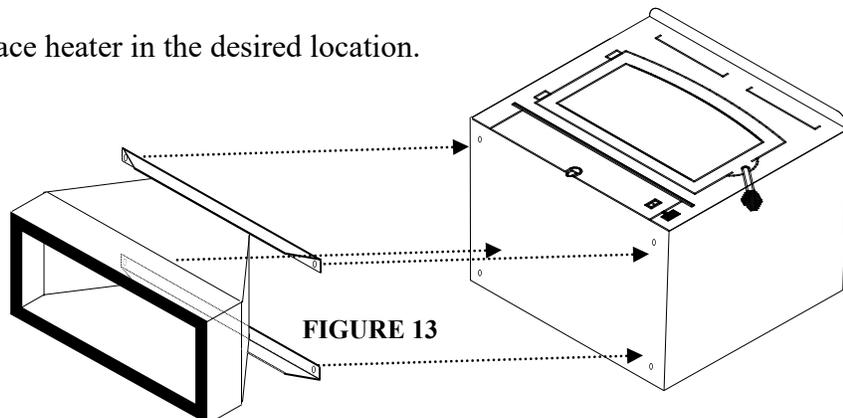

FIGURE 13
2. Obtain Pedestal and place pedestal against bottom of heater. Center pedestal from left to right and from front to rear. Mark holes thru pedestal brackets onto bottom of unit. Lay the pedestal aside. Drill four 1/8" holes through marks. Replace pedestal and secure with provided screws. (See Figure 13).